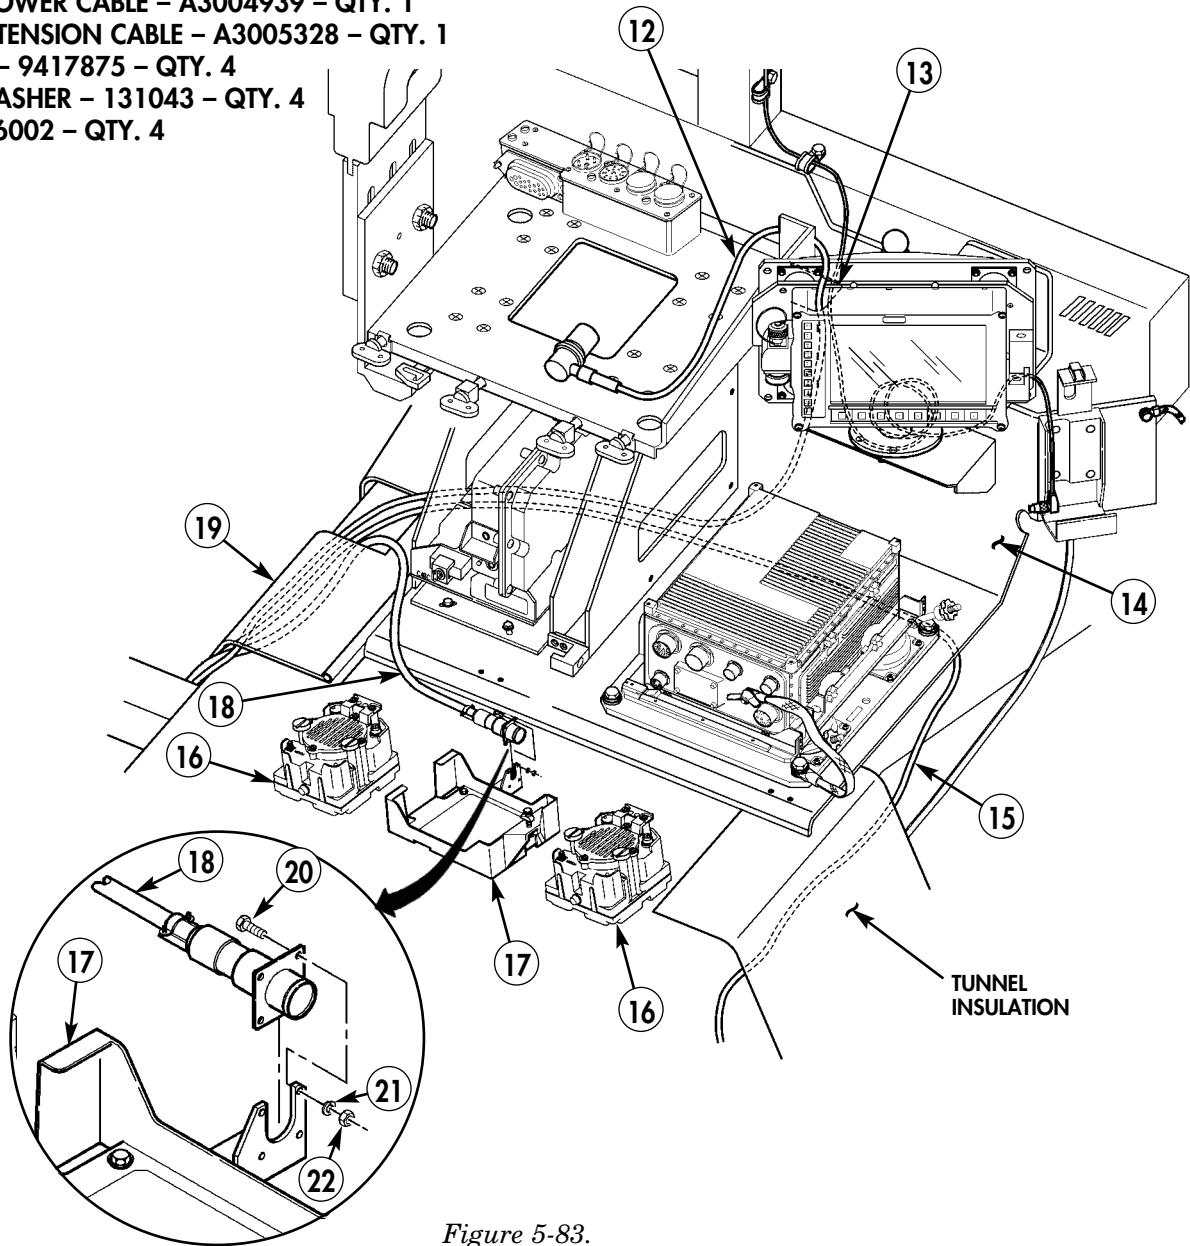

Figure 5-83.
- It may be necessary to drill one 0.281-in. diameter hole in right side of antenna base bracket for antenna cable clamp. (Refer to figure 5-83.)
- 21-15. Locate, mark, and drill one 0.281-in. diameter hole (40) in left overhead rail (39).
- 21-16. Route antenna cable (29) through hole (38) in overcab mount (34) and antenna base bracket (36) and connect to antenna (35).
- 21-17. Install grommet (37) in antenna base bracket (36) and overcab mount (34).
- 21-18. Secure antenna cable (29) to left overhead rail (39) and antenna base bracket (36) with two loop clamps (41), capscrews (33), lockwashers (42), and nuts (43).
- 21-19. Route antenna cable (29) down along left overhead rail (39) and secure with loop clamp (41) and existing screw (44).
- 21-20. Route antenna cable (29) to B-beam.